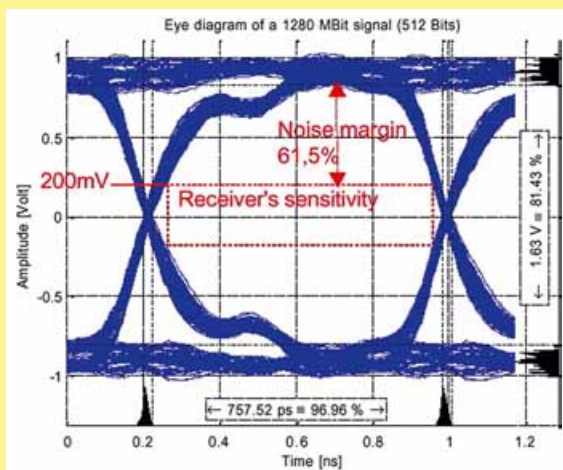

Fig. 1: Eye diagram of a 1280 MBit signal (512 Bits)
**har-link®** allows data transmission up to 2 Gbit/s per pair and is therefore perfectly suited for modern transmission protocols such as Low Voltage Differential Signals (see Fig. 1). The design of the **har-link®** connector allows differential pairs to be placed horizontally (parallel to the pcb), thus reducing the skew at high frequencies and considering high signal integrity.